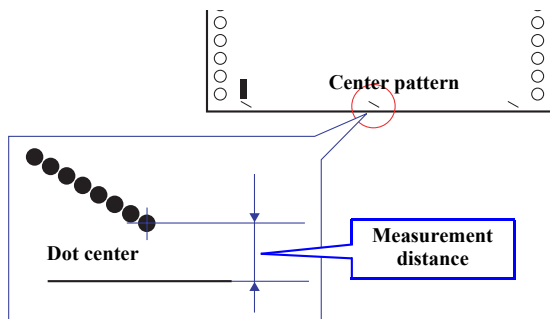

Figure 5-32. Bottom margin check pattern
4. Measure the distance (mm), from the bottom edge of the paper to the center of the bottom dot of the printed pattern, as shown in Figure 5-32. If it is within the specified range, no adjustment is needed. Click **Finish**.